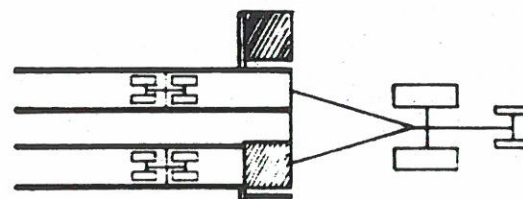
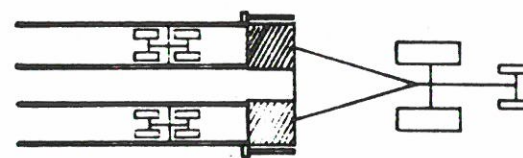

FIGURE 14
FIGURE 15
2. Approach the second round bale with the left fork in the lowered position, Fig. 14. Advance till the bale rests firmly between the fork lift teeth. Raise the fork until the bale falls onto the mover bed, Fig. 15.